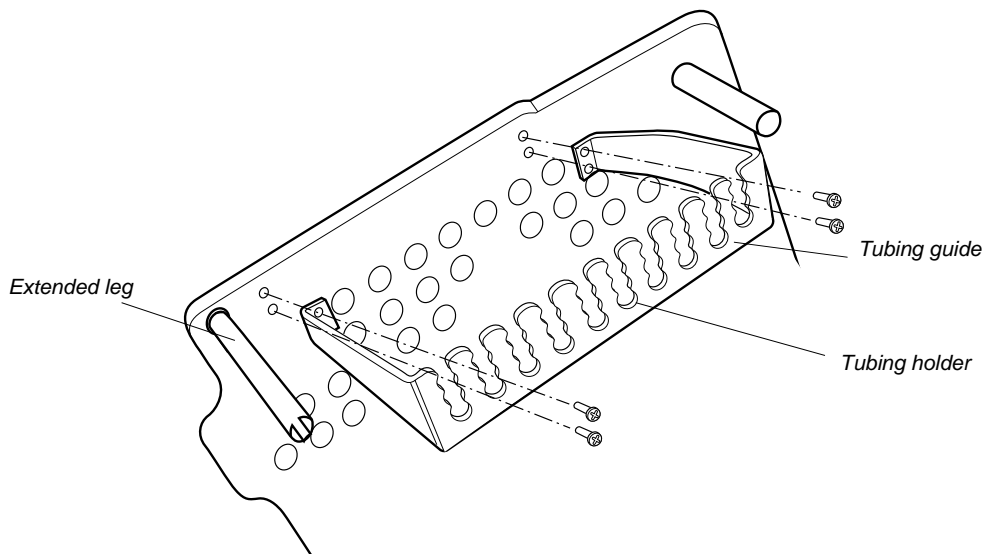

Figure 2-22. Attaching the Tubing guide
- 2 Connect the dispenser arm capillary (i.d. 1.0 mm, l = 800 mm) to the upper port at the accumulator using the finger-tight connector (1).
- 3 Fit a finger-tight connector to the swivel (2).
- 4 Thread the free end of the capillary through the finger-tight connector and the swivel. Allow the capillary end to stick out approximately 1-2 mm (3). Hold the swivel with the 8 mm key and tighten the connector.
- 5 Adjust the height of the dispenser arm to suit the height of the tubes or the bottles to be used (a distance between dispenser arm and the tip of the fractionation vessels of 0.5-1 cm is appropriate). Tighten the knurled screw (4).
- 2 Attach the Tubing guide to the rack as shown in Figure 2-22.